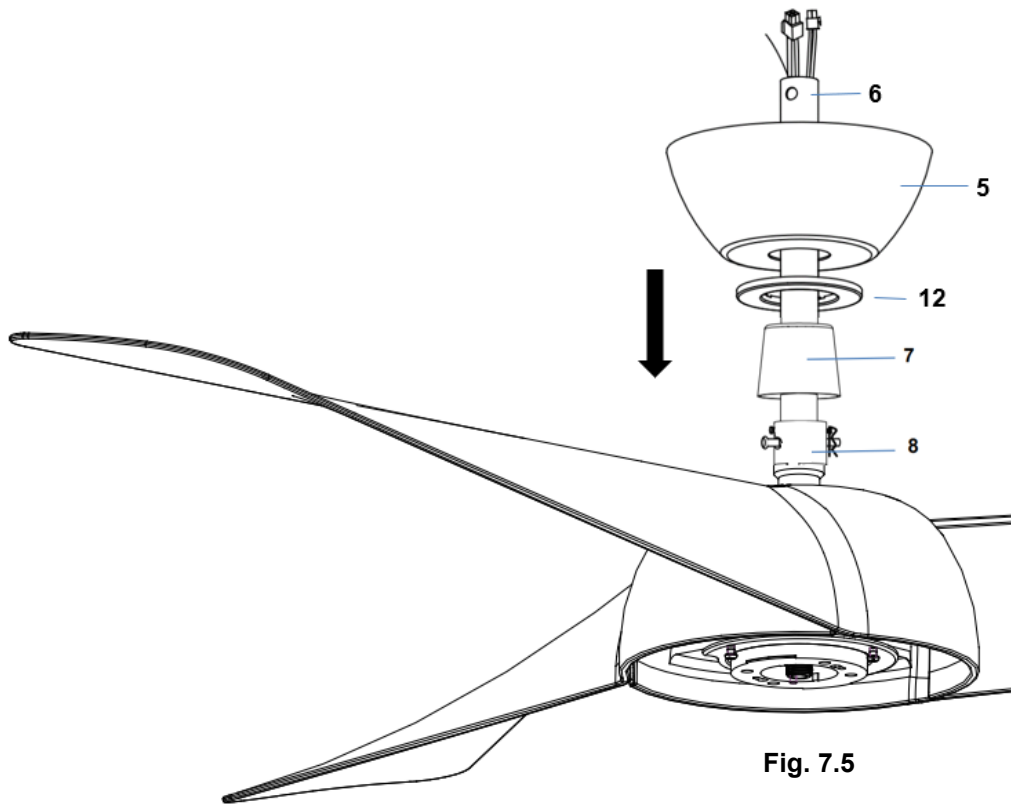
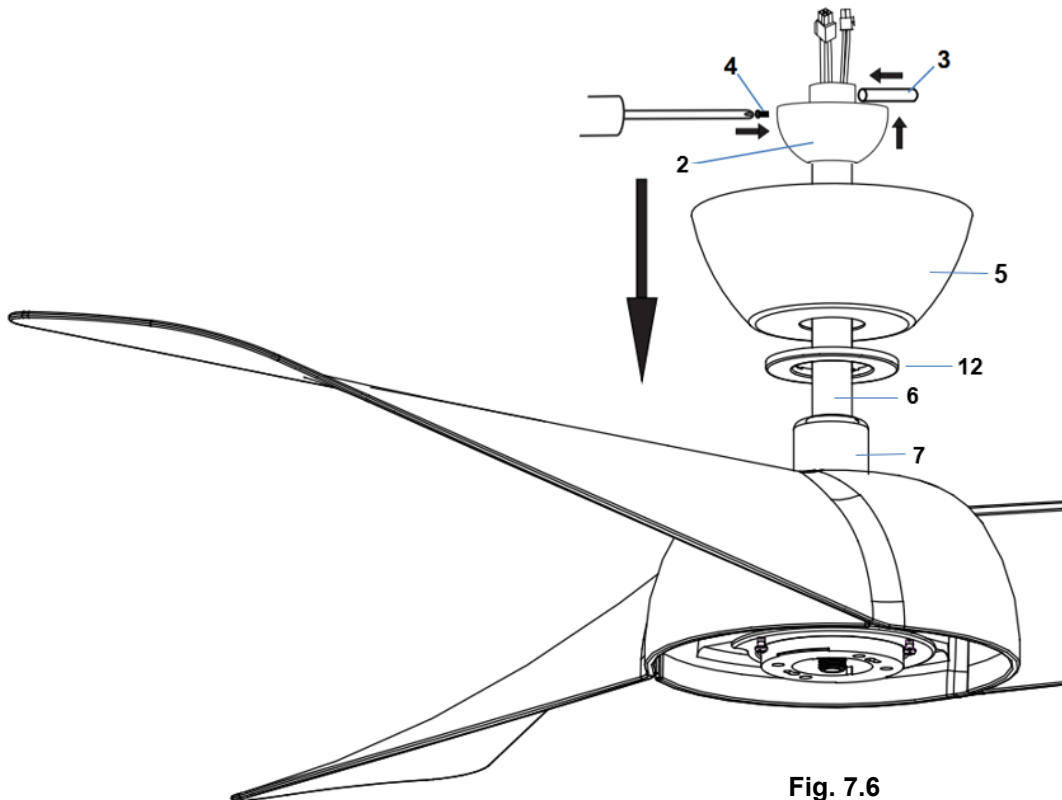

Fig. 7.5
Fig. 7.6
6. Insert the decorative cover (7) onto the down rod (6) to cover the down rod coupling housing (8). (Fig. 7.5)
7. Insert the canopy cover (12) & canopy (5) over the down rod (6) and install the ball joint (2) and dowel pin (3) back onto the down rod (6) and secure by tightening the set screws (4). (Fig. 7.5 & Fig. 7.6)